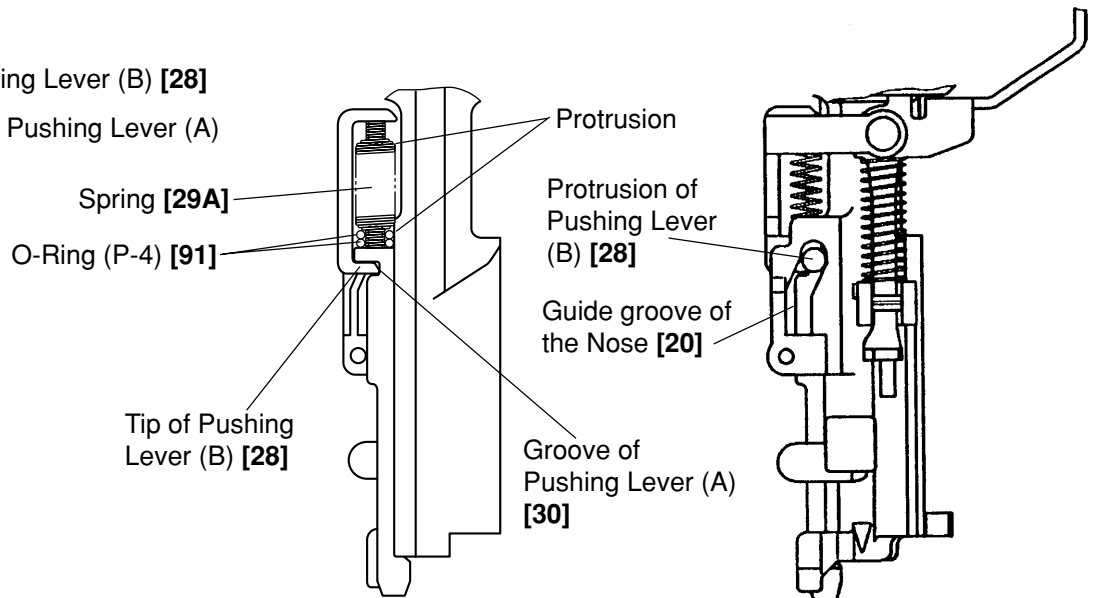

Fig.28
- Fit the protrusion of Pushing Lever (B) [28] into the guide groove of the Nose [20] (Fig. 28).
- Fit the tip of Pushing Lever (B) [28] into the groove of Pushing Lever (A) [30] (Fig. 28).
- Mount the Spring [29A] aligning with the protrusions of Pushing Lever (A) [30] and Pushing Lever (B) [28] (Fig. 28).